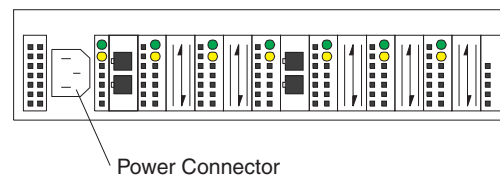

Figure 5. Type 3523 fibre-channel hub power connector
1. Connect the power cord to the fibre-channel hub, then to the electrical outlet. See Figure 5.